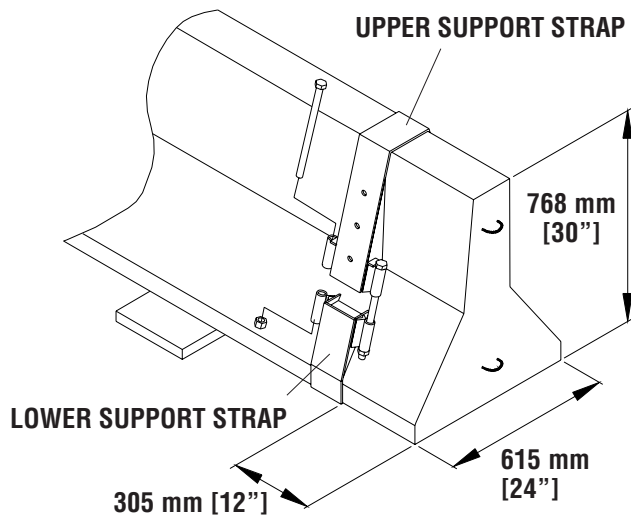

Figure 4
Step 2: Installing the Support Strap (See Figure 4)